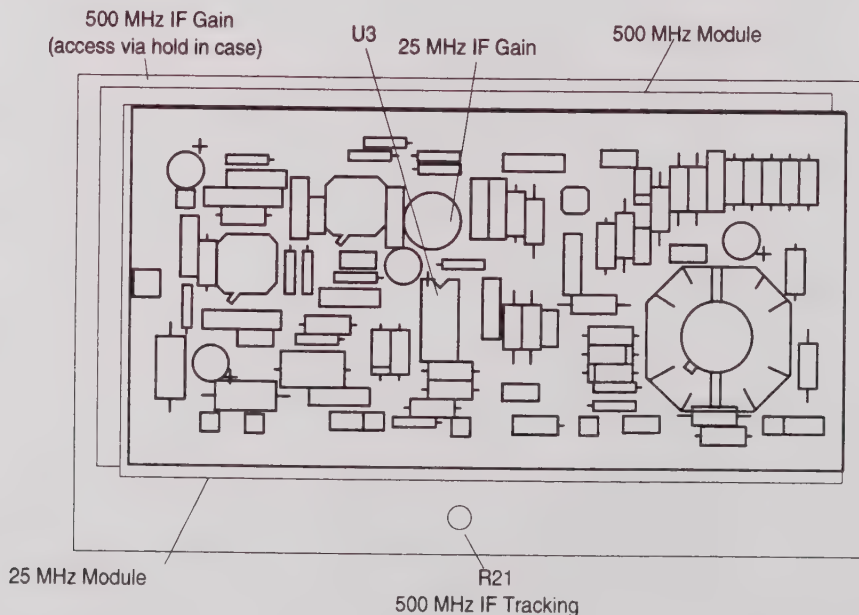
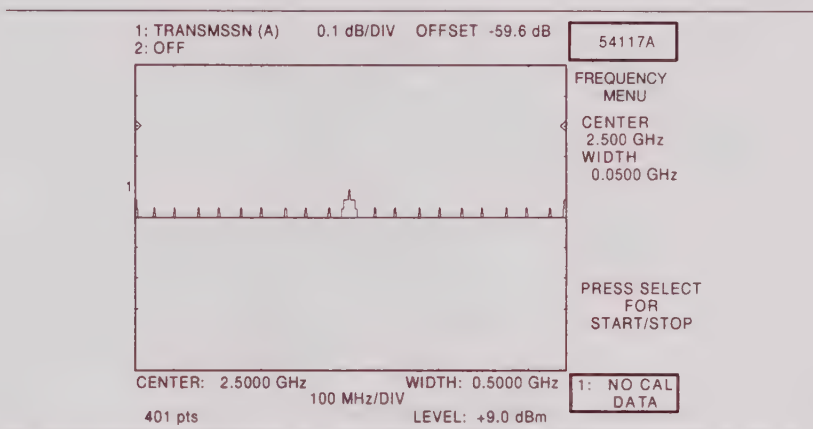
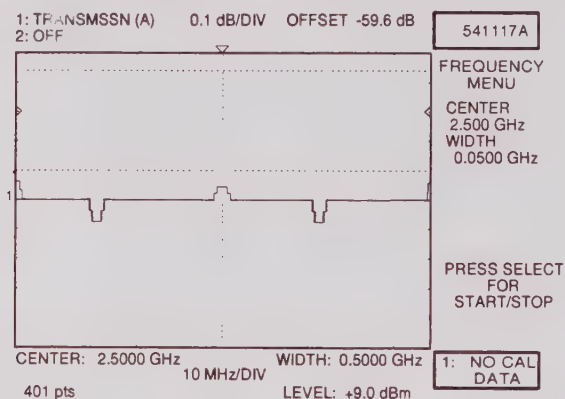
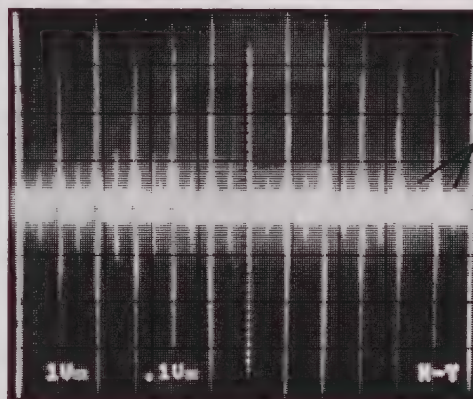

Figure 6-11. 25 MHz and 500 MHz Modules Adjustment Locations (54137A thru 54177A)
Figure 6-12. 541XXA Display of 500 MHz Markers
Figure 6-13. 500 MHz Markers in Saturation
Figure 6-17. Oscilloscope Spurious Signal Display
Step 19. Remove the cover from the 25 MHz Module and connect a X10 probe between the oscilloscope CH2 Input and U3-pin 3 (Figure 6-11).
Figure 6-11 shows the 25 MHz and 500 MHz modules ganged together, as they are for the 54137A and 54147A. Although the two units are separated on the other models, the adjustments are in the same relative locations.
Step 21. Set the 500 MHz I/F tracking potentiometer R21 (Figure 6-11) fully counter-clockwise.
Step 24. Adjust the 500 MHz IF gain and the 25 MHz IF gain potentiometers (Figure 6-11) to obtain all marker with no spurious, as observed on the 541XXA display (Figure 6-12).
Step 30. On the 500 MHz module, increase the 500 MHz IF Gain potentiometer (Figure 6-11) until spurious 500 MHz markers appear, or until saturation occurs (Figure 6-13). Reduce the gain until the spurious markers disappear.
- Step 37.** Adjust the 500 MHz Gain potentiometer (Figure 6-11) for a marker width of 20 ± 3 MHz.
- Step 40.** For all models that have R21 installed (Figure 6-11), adjust R21 to:
- Increase the width of the 500 MHz marker until saturation occurs (Figure 6-13).
- Step 44.** Connect the oscilloscope's CH 2 (Y-input) to U3, pin 2 (Figure 6-11), using a X10 probe.
Step 49. Adjust the 25 MHz IF Gain potentiometer (Figure 6-11) to provide a spurious signal on oscilloscope (Figure 6-17). Ensure that the maximum value does not exceed that shown in the table at left for the model under test.
If the spurious signal is greater than the value listed in the table top left, adjust the 25MHz gain pot (figure 6-11) to reduce it to the level in the table.